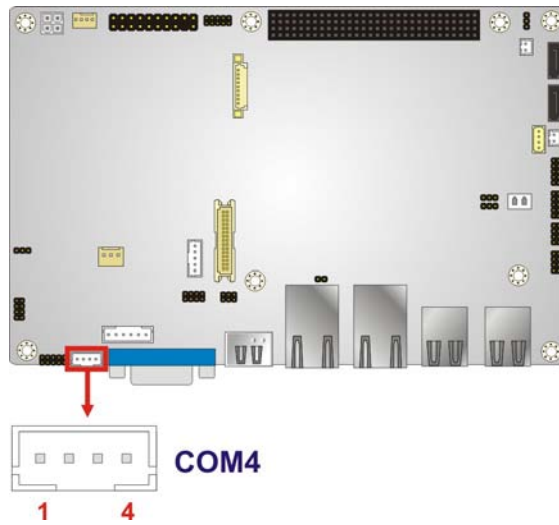

Figure 3-20: Serial Port Connector Location
- CN Location: See **Figure 3-20**